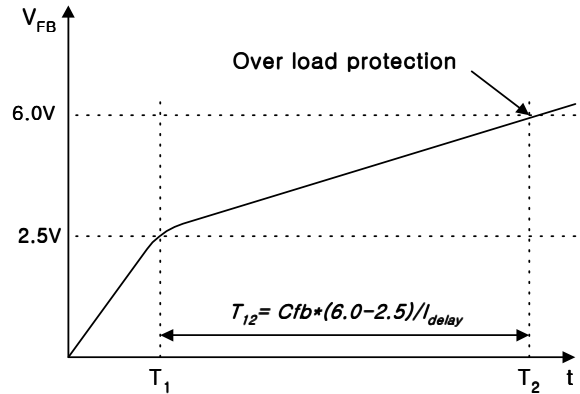

Figure 7. Over load protection
**3.1 Over Load Protection (OLP) :** Overload is defined as the load current exceeding a pre-set level due to an unexpected event. In this situation, the protection circuit should be activated in order to protect the SMPS. However, even when the SMPS is in the normal operation, the over load protection circuit can be activated during the load transition. In order to avoid this undesired operation, the over load protection circuit is designed to be activated after a specified time to determine whether it is a transient situation or an overload situation. Because of the pulse-by-pulse current limit capability, the maximum peak current through the Sense FET is limited, and therefore the maximum input power is restricted with a given input voltage. If the output consumes beyond this maximum power, the output voltage ( $V_o$ ) decreases below the set voltage. This reduces the current through the opto-coupler LED, which also reduces the opto-coupler transistor current, thus increasing the feedback voltage ( $V_{fb}$ ). If  $V_{fb}$  exceeds 2.5V, D1 is blocked and the 3.5uA current source starts to charge  $C_B$  slowly up to  $V_{cc}$ . In this condition,  $V_{fb}$  continues increasing until it reaches 6V, when the switching operation is terminated as shown in figure 7. The delay time for shutdown is the time required to charge  $C_B$  from 2.5V to 6.0V with 3.5uA. In general, a 10 ~ 50 ms delay time is typical for most applications.